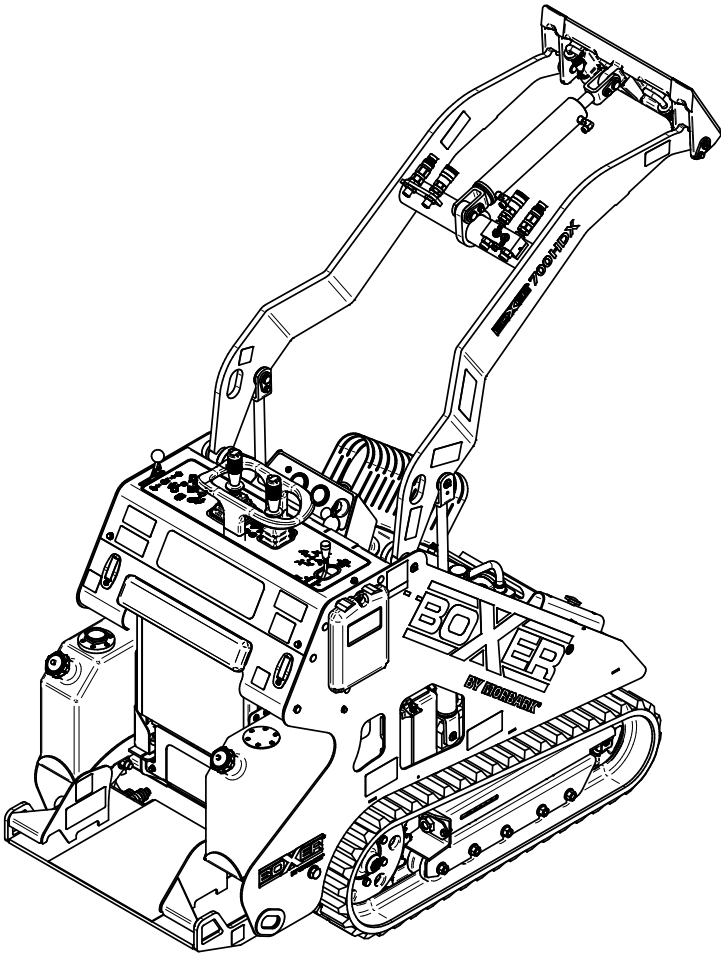

Figure 3-7 Lubrication Points
13. Grease pivot shafts with proper type of grease. There are 14 grease points on this machine, see **Figure 3-7** on page 3-7.